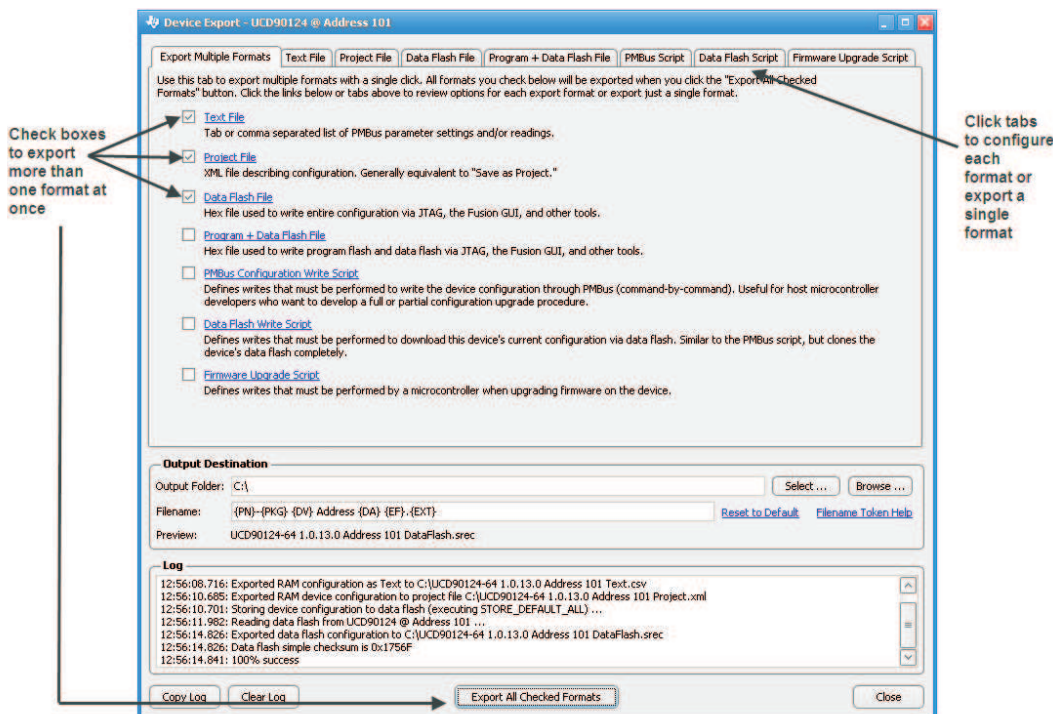

Figure 30. Fusion GUI Device Configuration Export Tool
3. Another in-circuit programming option is for the *Fusion GUI* to create a data flash image from the configuration file (Figure 30). The configuration files can be exported in Intel Hex, Serial Vector Format (SVF) and S-record. The image file can be downloaded into the device using I²C or JTAG. The *Fusion GUI* tools can be used on-board if the *Fusion GUI* can gain ownership of the target board I²C bus.